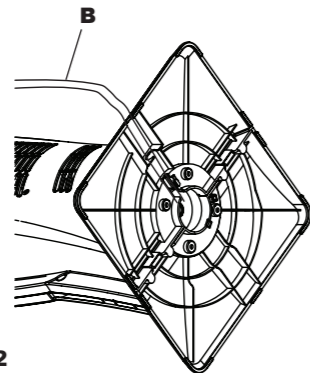

Fig. 2
Step 2: Lace the power cord through the cord minders on the underside of the base. (Refer to Fig. 2)